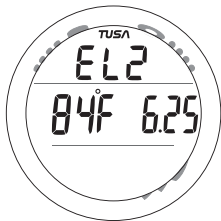

Fig. 31 - NORM SURF ALT
**NORM SURF ALT**, information includes (Fig. 31):